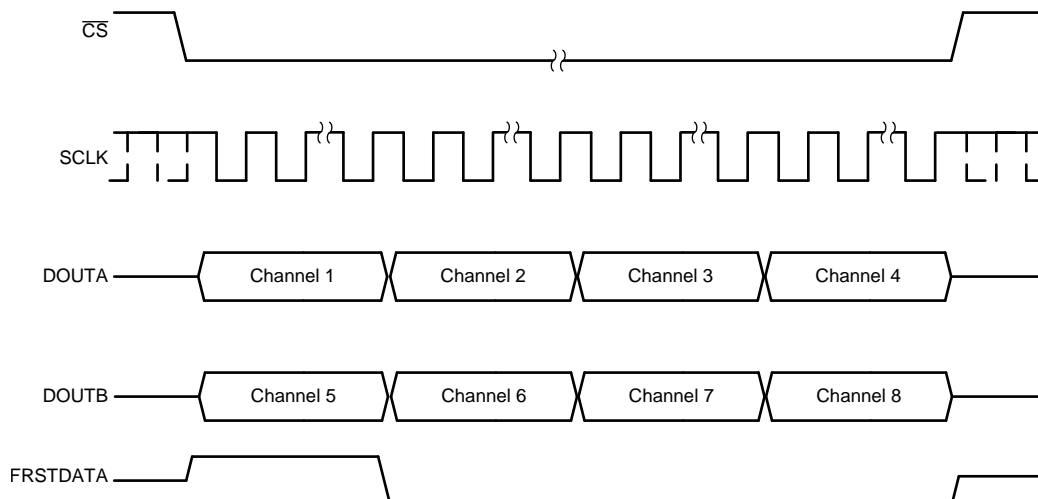

Figure 70. Data Read Back in the Serial Interface Using Both DOUTA and DOUTB Timing Diagram
- In order to minimize the time for the data read operation in serial mode, both DOUTA and DOUTB can be used to read data out of the device. In this case, the conversion results from the first set of channels (channels 1-4 for the ADS8588S) appear on DOUTA and the conversion results from the second set of channels (channels 5-8 for the ADS8588S) appear first on DOUTB. To read the data for all channels, provide a total of $16 \times 4 = 64$ SCLK cycles for the ADS8588S. This entire data frame can be created within a single $\overline{\text{CS}}$ pulse or each group of 16 SCLK cycles can be individually framed by the $\overline{\text{CS}}$ signal. Figure 70 shows an example timing diagram.